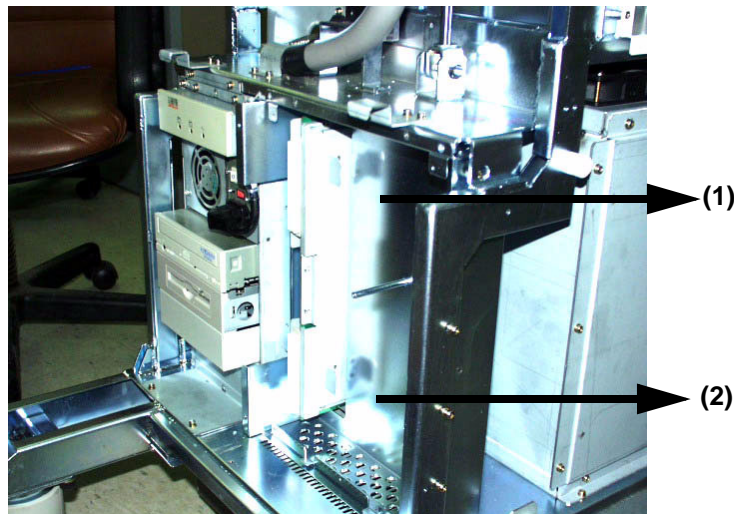

Figure 8-91 Unscrew 2 screws to remove the LMT B'd
- 2.) Unscrew two (2) screws (1-2) to remove the LMT Board. Refer to Figure 8-91.